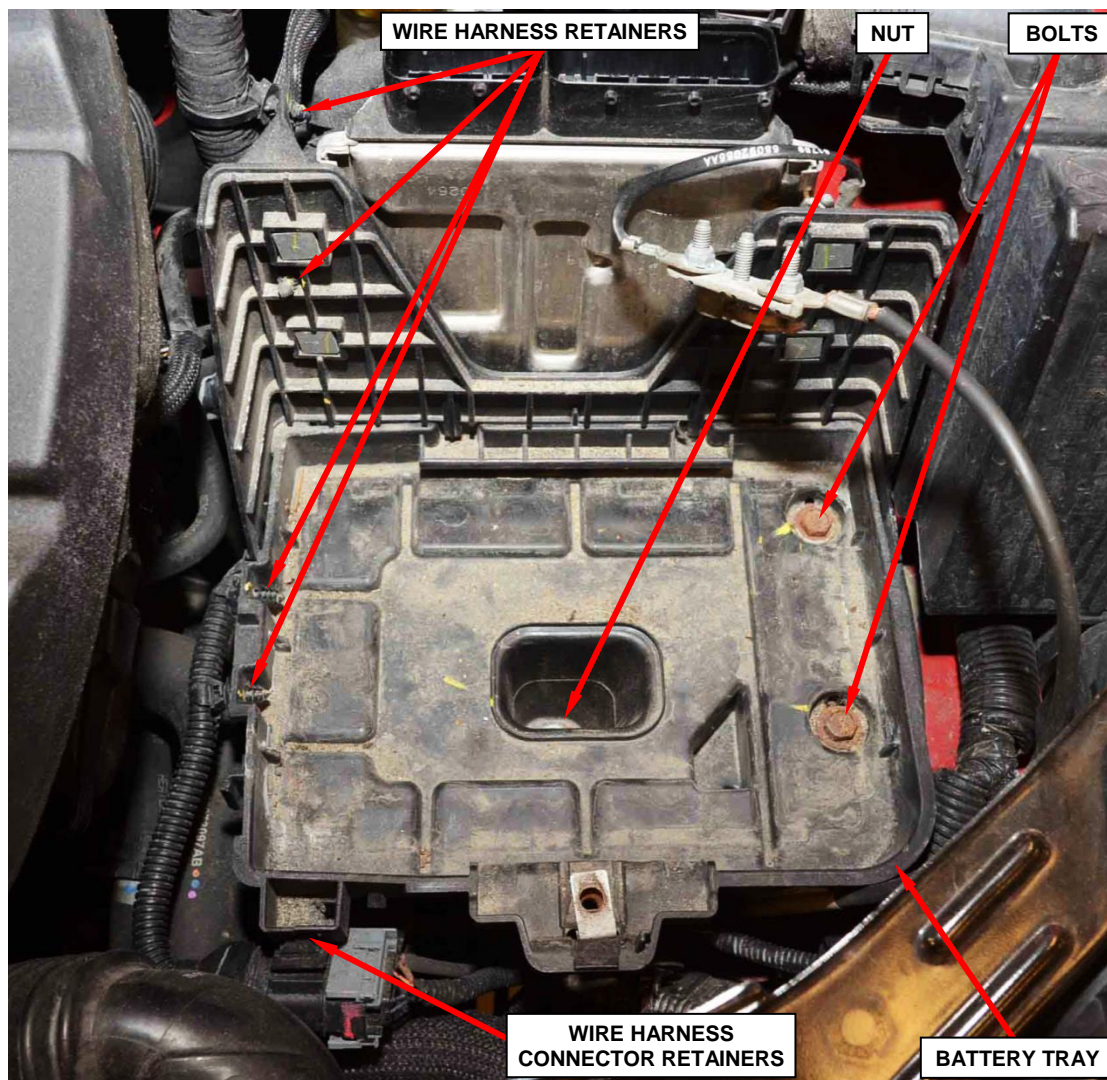

Figure 6 – Wire Harness Retainers and Battery Tray
10. Release the wire harness retainers from the battery tray (Figure 6).
11. Release the engine wire harness connector retainer from the battery tray and reposition the wire harness (Figure 6).
12. Remove and save the battery tray retaining nut and two bolts (Figure 6).
13. Remove and save the battery tray (Figure 6).